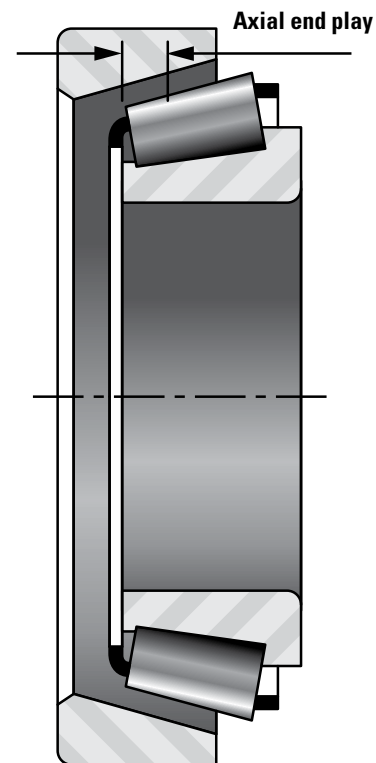

Fig. 11 Axial force is applied in both directions while rotating the shaft
- End play – An axial clearance between rollers and races producing a measurable axial shaft movement when a small axial force is applied - first in one direction, then in the other, while oscillating or rotating the shaft (Fig. 11).